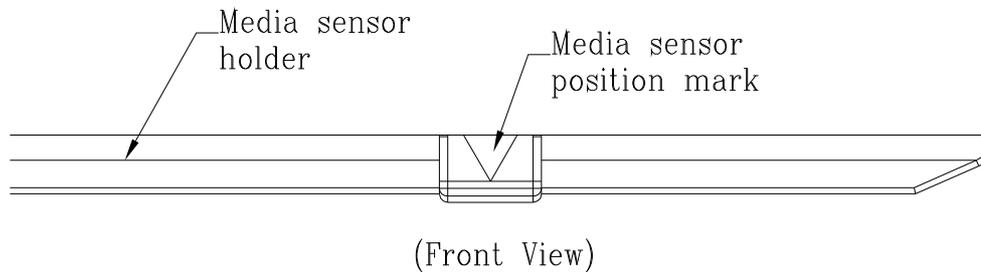

Figure 6.1
4. Adjust the sensor by moving the media sensor adjustment lever left or right (look through the front of the print) checking if the media sensor position mark (Figure 6.1) is located on the top of the notch or hole of the media.